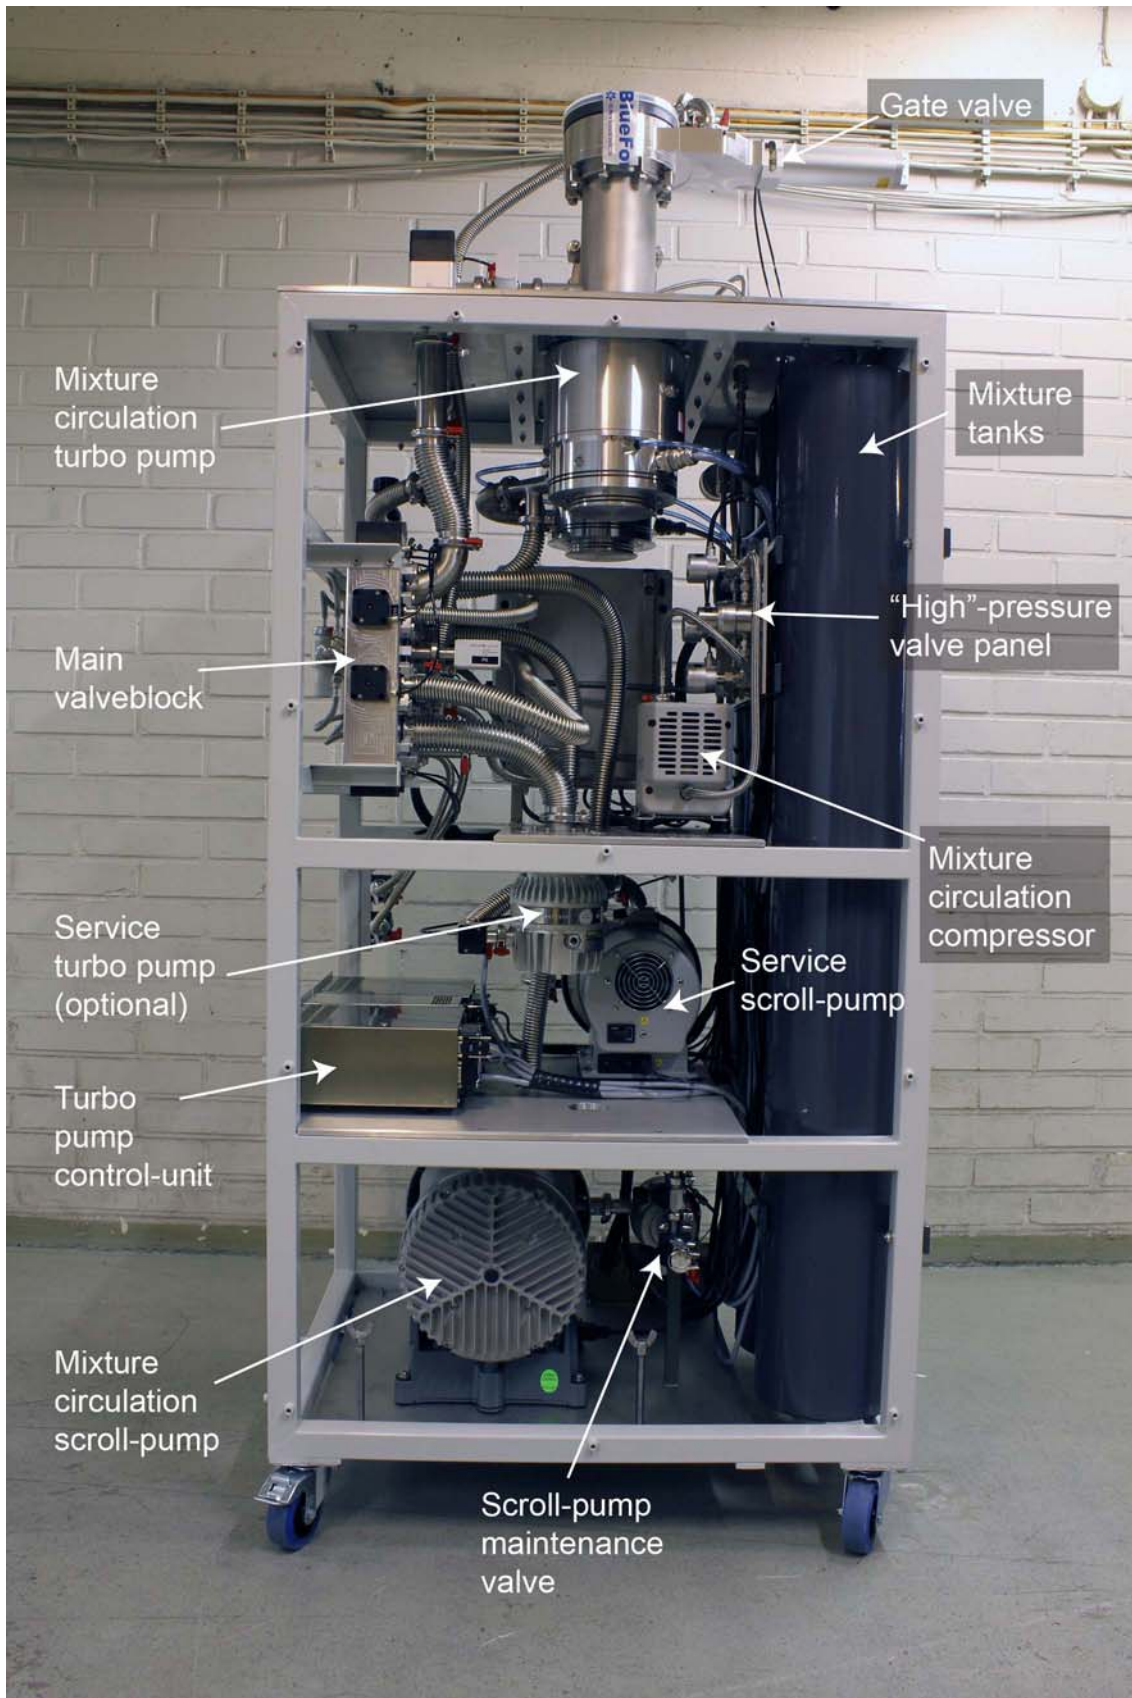
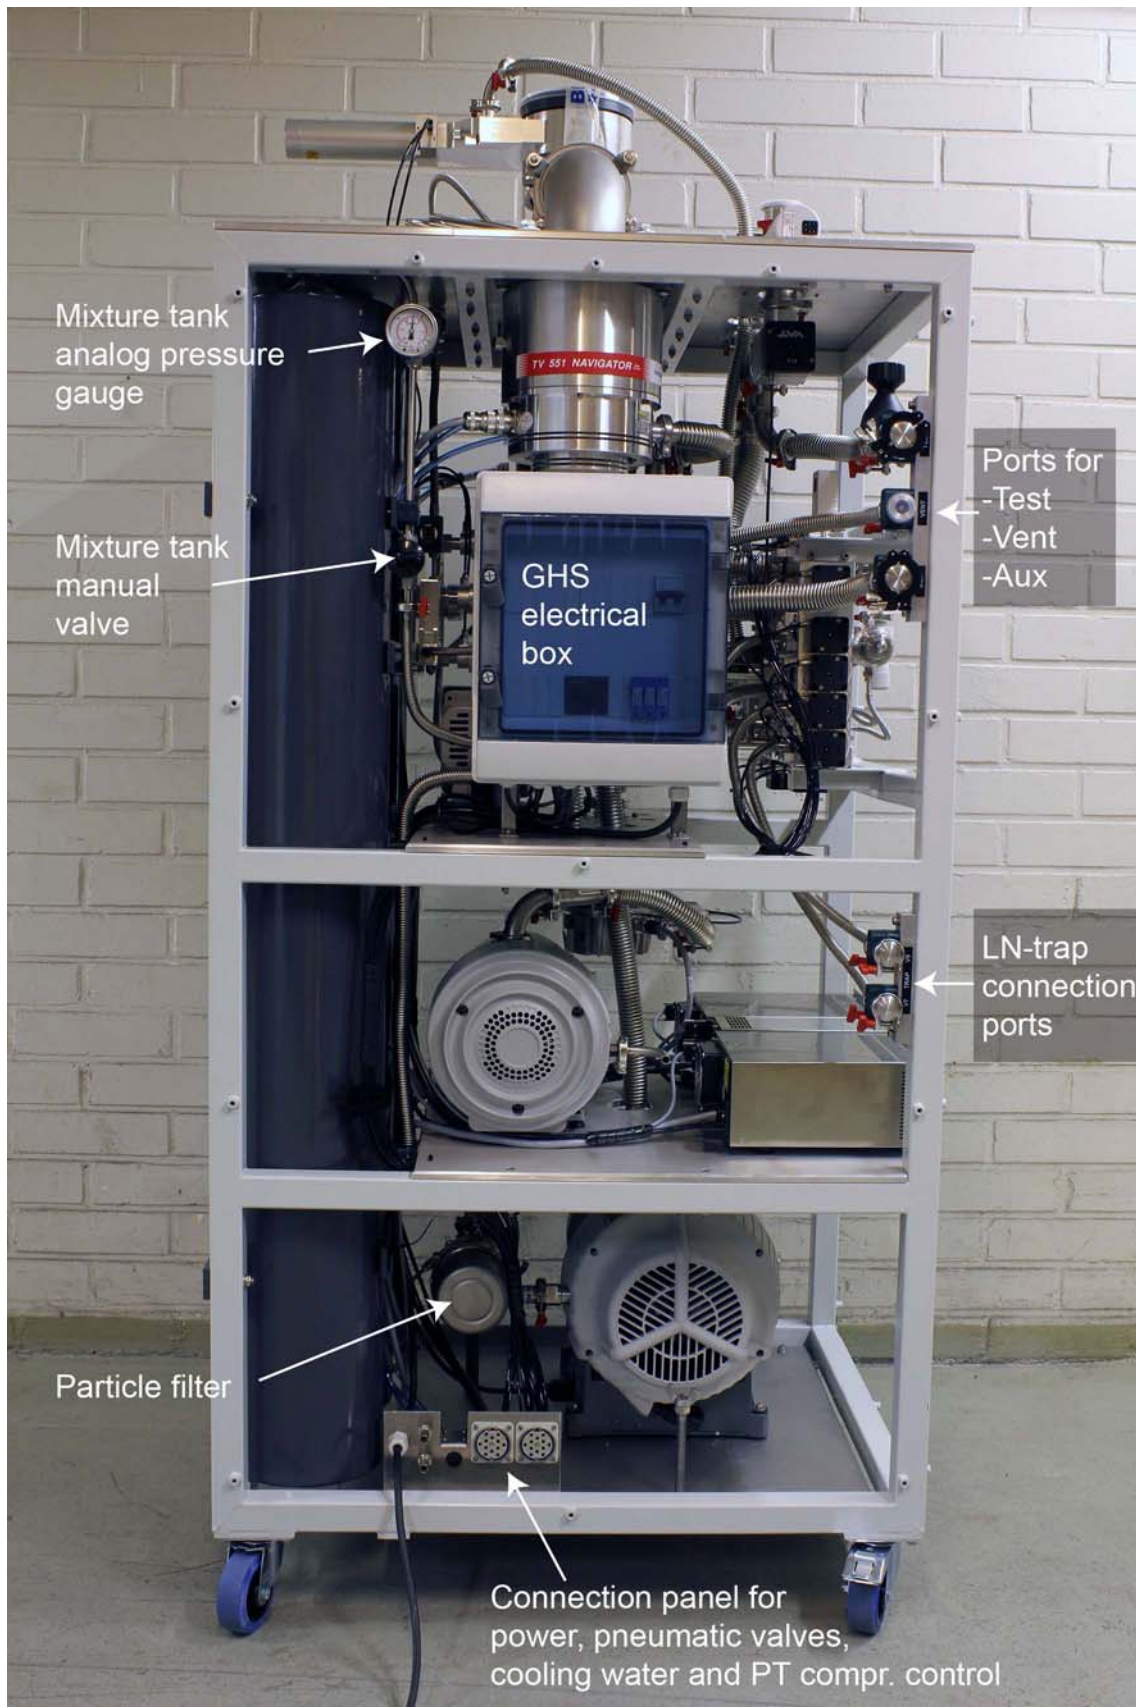

Figure 5. Gas handling system (GHS) main components.
Figure 6. GHS main components.
The GHS of the BF-H400 system is contained in a single cabinet (see Figure 5, Figure 6). It contains all pumps, pumping lines, valves, pressure gauges, etc, which are necessary to operate the entire system. Because of acoustic noise this unit is preferably placed in a separate room from the cryostat, together with the Cryomech pulse tube compressor. The flow diagram of the GHS is shown in Attachment 7.1. As outlined in the diagram, it basically consists of two halves; the **main circulation circuit** and the **service manifold**. These two halves can be interconnected at different stages through valves *V15*, *V17* and *V18*.
To save space and reduce the chance of leaks, the bulk part of the interconnecting tubes and vacuum valves are integrated in a single aluminum block, custom developed in cooperation with VAT Vacuum Valves AG (see Main valve block in Figure 5). All the valve actuators on this manifold are standard VAT parts which in the unlikely case of a failure can be easily and quickly replaced.
The commonly used vacuum access ports are located on the left-hand side of the GHS, these ports include (see Figure 6):
- All valves in the DR circulation are closed and that there is no pumping path to the mixture tank. **The safest option is to have the manual valve on the mixture tank closed** (see Figure 18 and Figure 6). **It is recommended to always keep the manual mixture tank valve closed when the system is not running.**